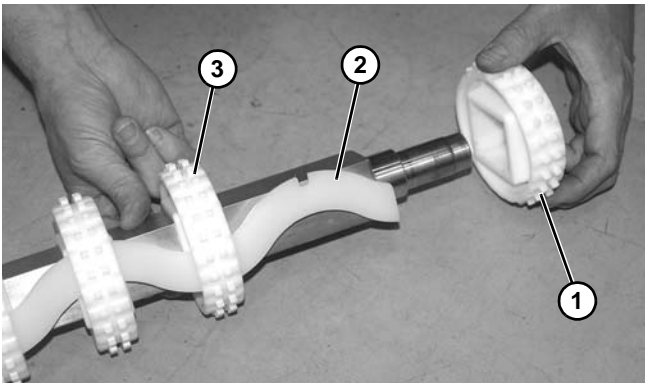

Figure 77
17. Slide entire sprocket assembly slightly outward, and remove the first sprocket (Figure 77, item 1) off the drive spindle and alignment key (Figure 77, item 2).
18. Remove remaining sprockets (Figure 77, item 3) off the alignment key while sliding the entire assembly off the drive spindle.